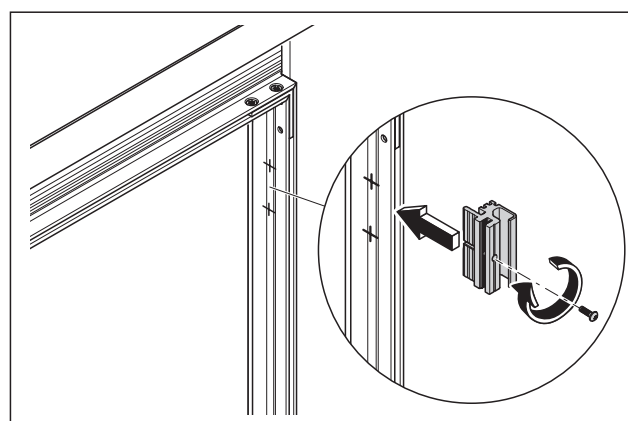

Fig. 33 Attach the fixers on the hinge side.
- Attach the fixers on the hinge side to the indicated position with a torque of 5 Nm (Fig. 33).